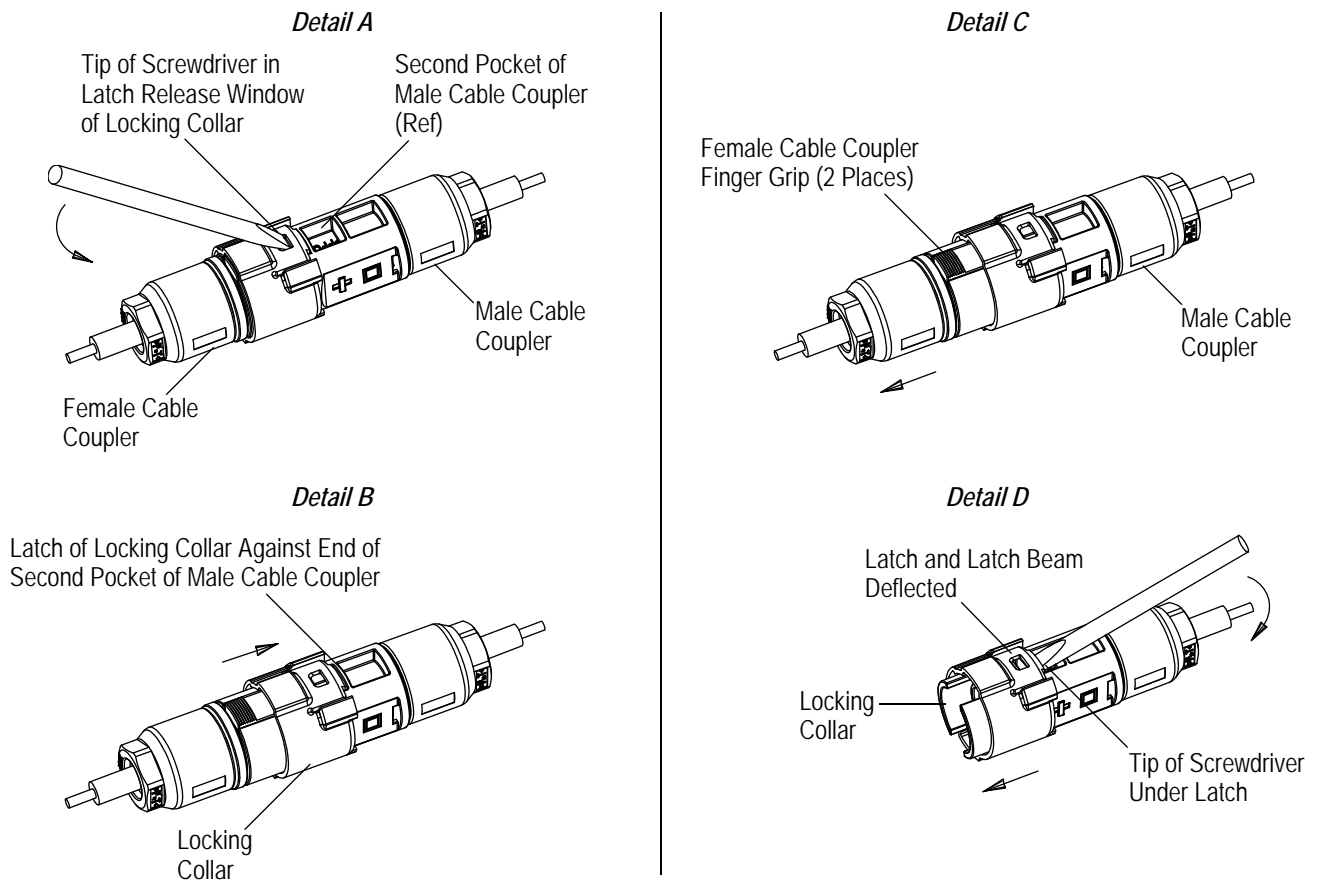

Figure 3
1. From the female cable coupler side, the tip of a flat-blade screwdriver must be inserted into the latch release window of the locking collar. See Figure 3, Detail A.
2. The screwdriver must be rotated and slightly pushed until the latch of the locking collar lifts over the first pocket of the male cable coupler and into the second pocket. The locking collar must be pushed axially toward the male cable coupler until the latch is against the end of the second pocket. See Figure 3, Detail B.
3. The cable couplers must be unmated by depressing the finger grips of female cable coupler and pulling the female cable coupler away from the male cable coupler. See Figure 3, Detail C.
4. The tip of the screwdriver must be inserted under the latch of the locking collar, then rotated so that the latch and the latch beam deflects away from the male cable coupler. Then, the locking collar must be pulled off of the male cable coupler. See Figure 3, Detail D.